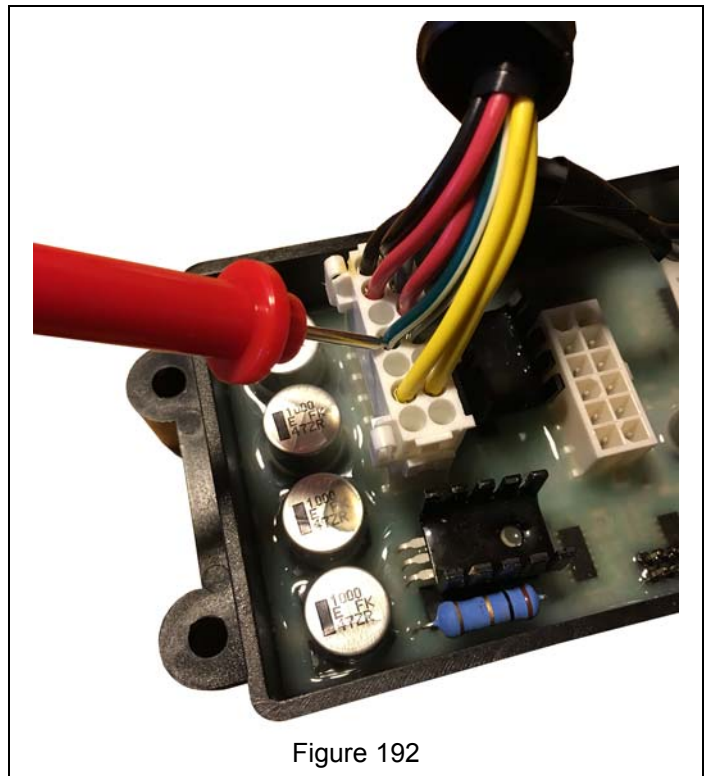

Figure 192
3. With a multi-meter, measure the V DC of the green / white wire. See Figure 192.